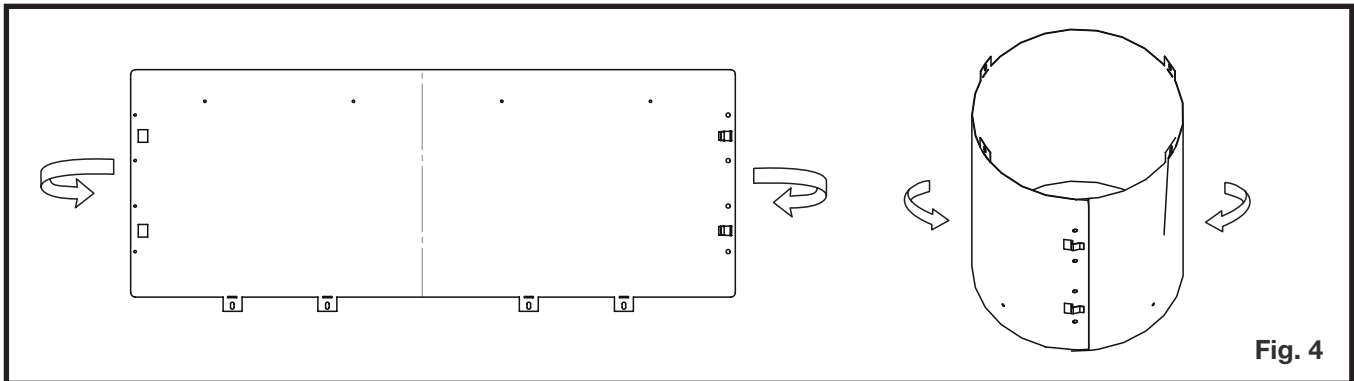

Fig. 4
4. Bend vent sleeve as shown and ensure to clip the ends together (Figure 4).
4. Remove the fasteners as shown in Figure 4. **DO NOT DISCARD FASTENERS**